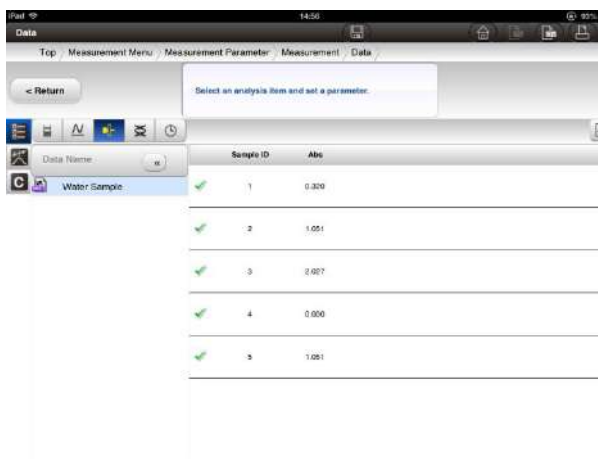

Fig. 4-114 Data Confirmation Window
- (1) Press  [Data button] and move to the data confirmation window (Fig. 4-114).